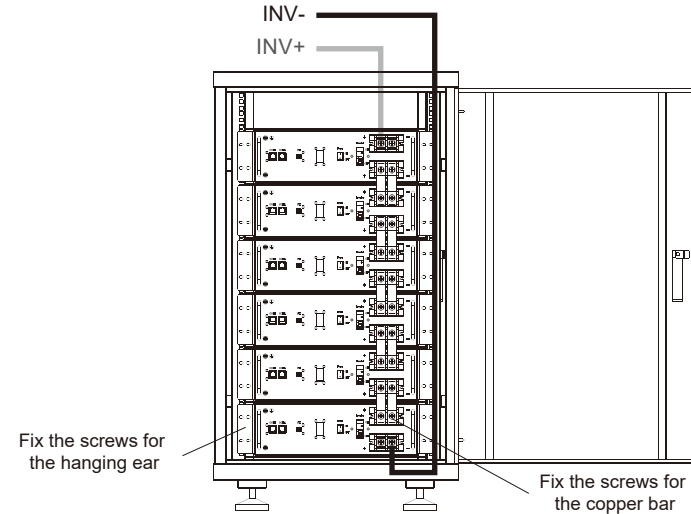

Figure 4 Install battery module & connect copper bar
Step 2: As shown in Figure 4, put the battery into the cabinet, tighten the four-angle screws (M6*12 cross head triad screw, torque: 5 N.m); and fix the copper strip between the battery modules with 3#cross screwdriver (M8; torque: 12 N.m).